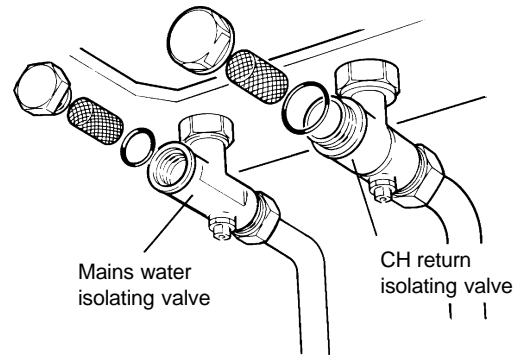

Fig. 34
8.31 MAINS WATER INLET VALVE FILTER - Fig. 34
8.32 HEATING RETURN FILTER - Fig. 34